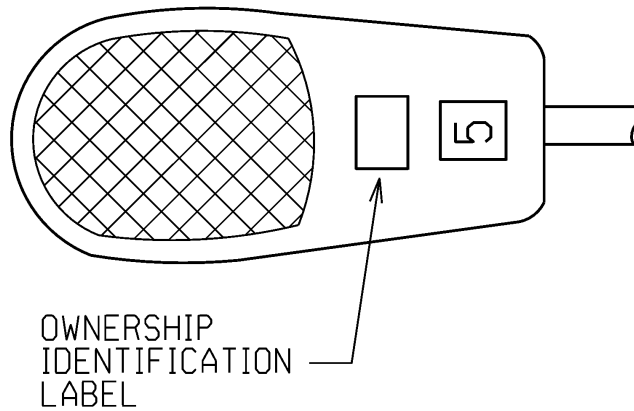

Figure 61 – Installation of Ownership Identification Label
1. Ownership identification label shall be installed on the lower door of a horizontal roadway luminaire such that it is clearly visible from the ground. See Figure 61.